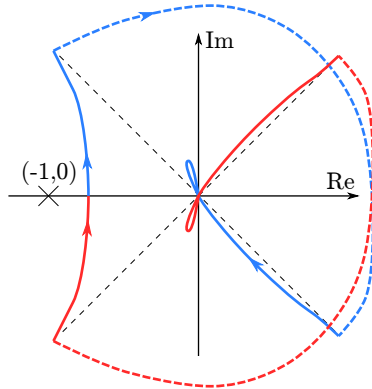

Figure 3: Exercise 6: Nyquist plot for a value of  $K$  in  $(-1/25, 0)$
**06 - Solution summary)** Do not get confused by the trinomial term with zero damping coefficient at the numerator, it will make the Nyquist plot go through the origin (see Fig. 3). The Routh table for the closed-loop pole polynomial